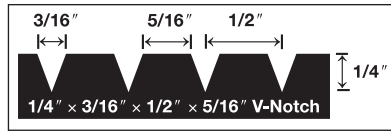

Figure 2
- 1/4" x 1/2" x 3/16" (6 mm x 13 mm x 8 mm) V-Notch trowel (Figure 2) or other adhesive manufacturer's trowel
- Spread sufficient amounts of the recommended adhesive with the recommended trowel (Figure 2) in an area that can be covered in 60 minutes (see adhesive information).